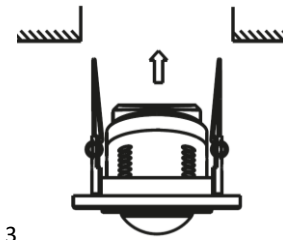

Figure 3
4. Bend back the spring clips and insert the PIR detector into the ceiling (Figure 3).